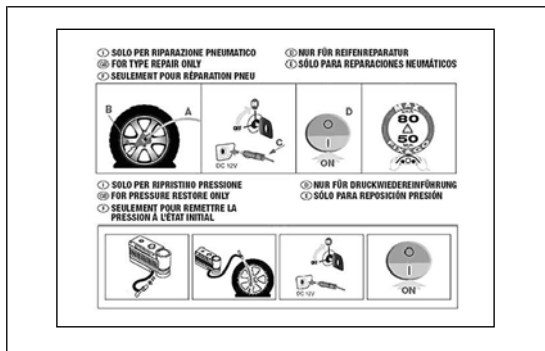

fig. 116
- ☐ instruction brochure (see fig. 116), to be used for prompt and correct use of the quick tyre repair kit and then to be handed to the personnel charged with handling the treated tyre;